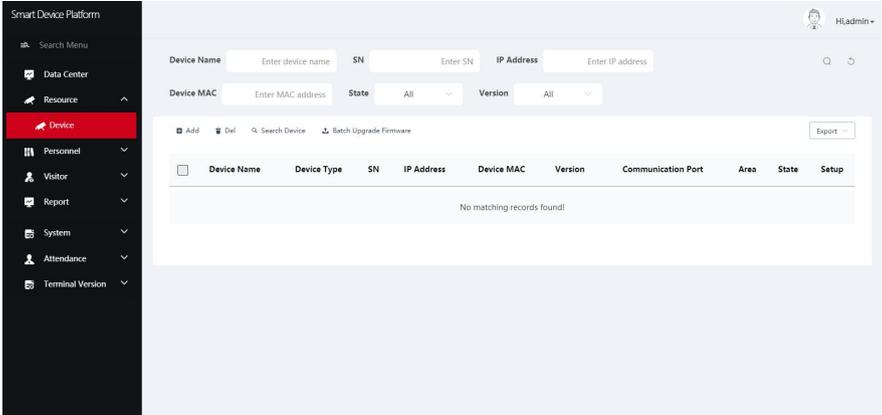

Figure 5-5
Step1: In the smart device platform interface,click "Resource→Device" to enter the device management interface, as shown in Figure 5-5 below.